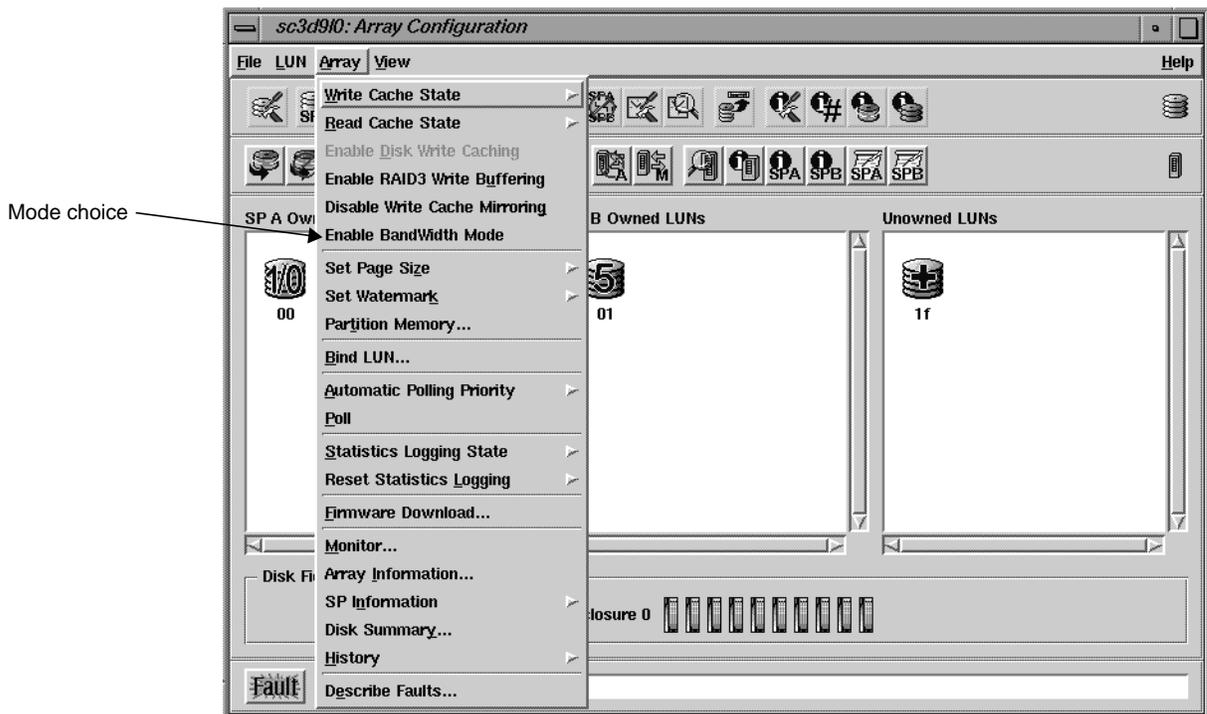

Figure 2-9 Array Menu of Array Configuration Window: Bandwidth and Mixed Mode (Default)
- Make sure bandwidth mode (optimization for RAID 3 LUNs) is enabled (mixed mode is disabled): In the Array menu of the Array Configuration window, see that the menu choice reads Enable Mixed Mode. If the item reads Enable BandWidth Mode, as in Figure 2-9, click on this menu choice to enable bandwidth mode.